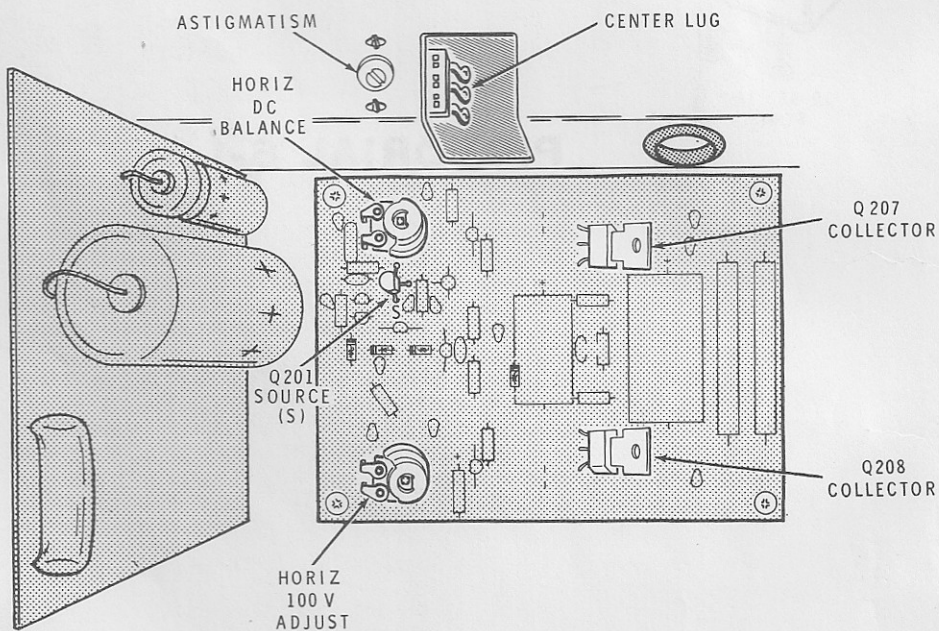

Figure 2
Refer to Figure 2 for the following steps.
- () Adjust the ASTIGMATISM control (see Figure 2, fold-out from this page), and the INTENSITY and FOCUS controls (on the front panel) for the sharpest trace.